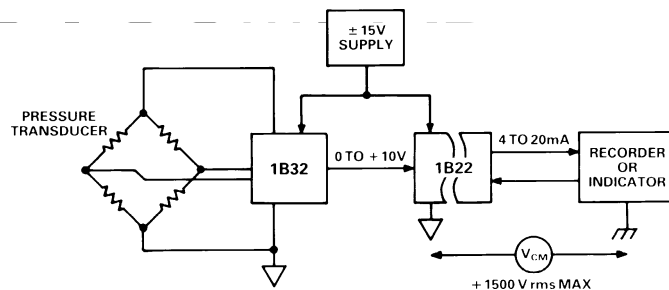

Figure 8. Isolated Pressure Transmitter
**Pressure Transmitter:** In Figure 8, the 1B22 is used in a pressure transmitter application to provide complete input-output isolation and avoid signal errors due to ground loop currents. The process pressure is monitored with a strain gage type pressure transducer interfaced by the Analog Devices' 1B32 transducer signal conditioner. The high level voltage output of the 1B32 is converted to the isolated 4 to 20 mA current for transmission to a remote recorder or indicator.